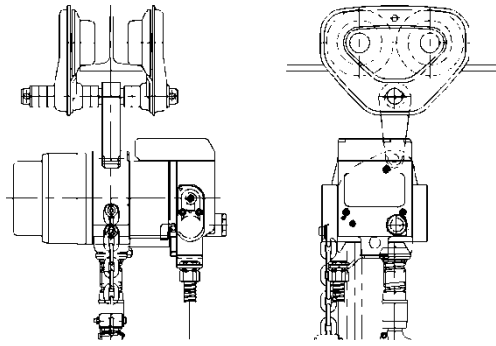
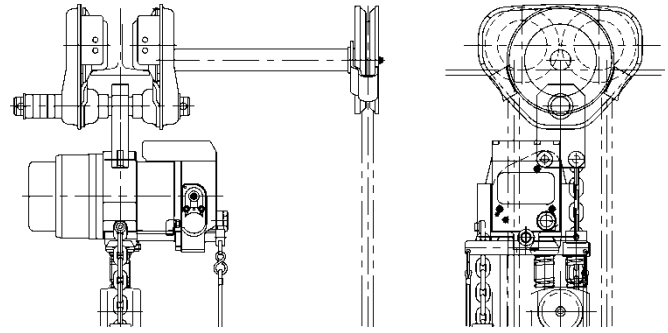
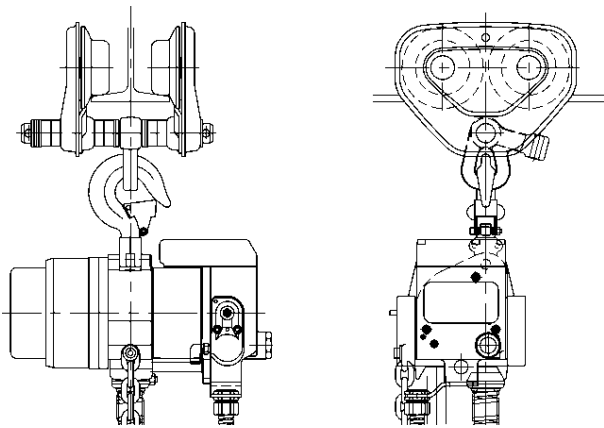

Figure 3-21 Lug mount on TF2
Figure 3-22 Lug mount on Geared TS2 Extended Hand Wheel
Figure 3-23 Hook mounted on Suspender C
3.3.4 Standard configuration for a TCR hoist is lug mounted to the trolley using a TCR Suspender. As shown in **Figure 3-21** or **Figure 3-22**. Optional configurations for 1/4 to 3Ton TCR hoist is, hook mount to suspender C as shown in **Figure 3-23**.